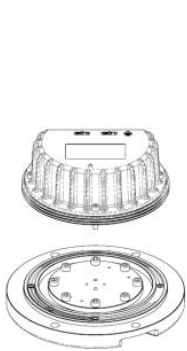

Figure 5-12
- Place the top of the lighting fixtures downwards and unscrew the screw with a screwdriver to separate the upper cover and inner cover of the lighting fixture (see Figure 5-12).